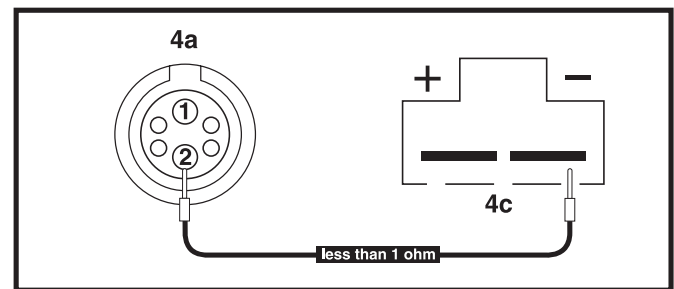
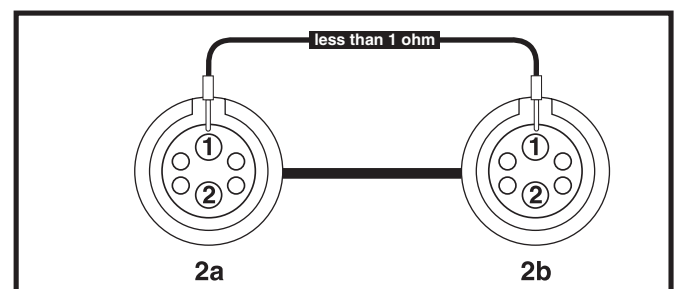

Figure 10. Connectors 4a and 4c
Figure 11. Connectors 2a and 2b
28. Measure resistance across pin 2 on connector 4a and pin 2 on connector 4c. **See diagram 1 and figure 10.**
- *If either multimeter measurement indicates an open, then replace the power module (4) and retest the system.*
30. Measure resistance across pin 1 on connector 2a and pin 1 on connector 2b. **See figure 11.**